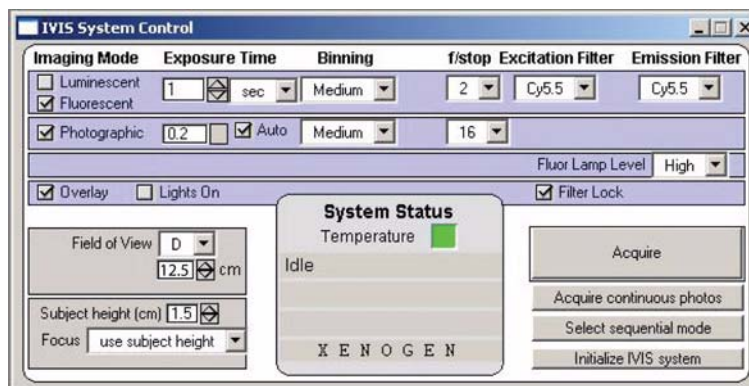

Figure 9.11 IVIS System Control panel
2. In the IVIS System Control panel of the Living Image software, set "Fluorescence On" and adjust "Fluor lamp Level" to OFF (Figure 9.11). Allow the fan on the light source module to run for several minutes until the fiber optic connector (nosepiece with thumb screw) is cool to touch.